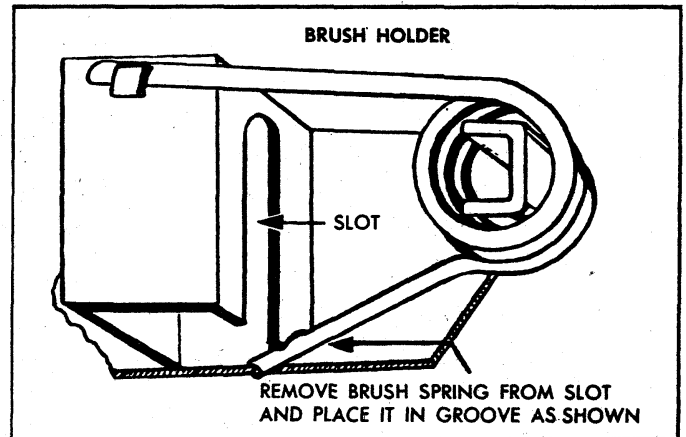

Fig. 68 - Releasing Brush Spring Tension
3. Remove brush spring tension (fig. 68), slide armature and end plate from motor frame. Pull end plate from armature.